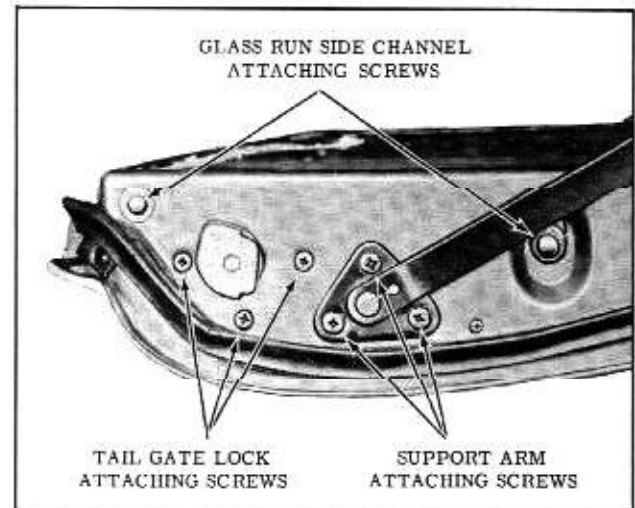
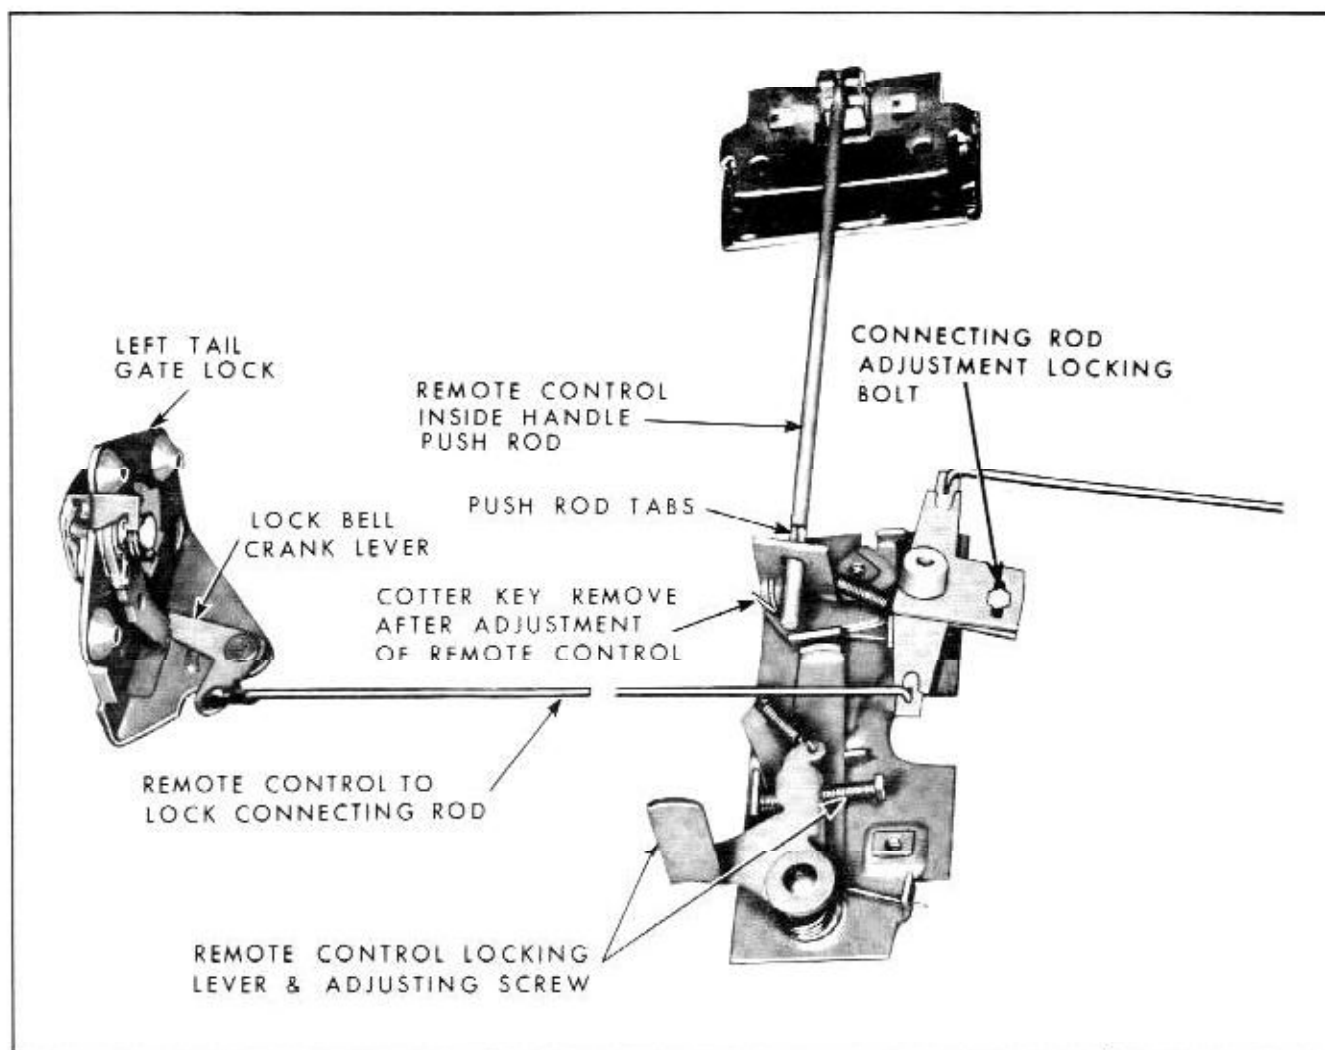

Fig. 17-196 Tail Gate Lock and Support Arms
Fig. 17-198 Tail Gate Lock Remote Control
2. Remove tail gate window glass run side channel attaching screws and remove channel from side of tail gate from which lock is being removed. (Fig. 17-196 and 17-198)
3. Disengage spring clip and detach lock remote control connecting rod from lock remote control. (Fig. 17-198)
4. Remove tail gate lock attaching screws and remove tail gate lock with attached connecting rod. (Fig. 17-198) Detach connecting rod from lock.
When attaching connecting rod to lock bellcrank lever, make sure bellcrank lever is in position shown in Fig. 17-198. When installing connecting rod to remote control, gently pull connecting rod towards remote control lever to seat bellcrank lever at lock; turn remote control lever adjusting screw until hole in lever is aligned with end of connecting rod; then install connecting rod to lever. (Fig. 17-196)